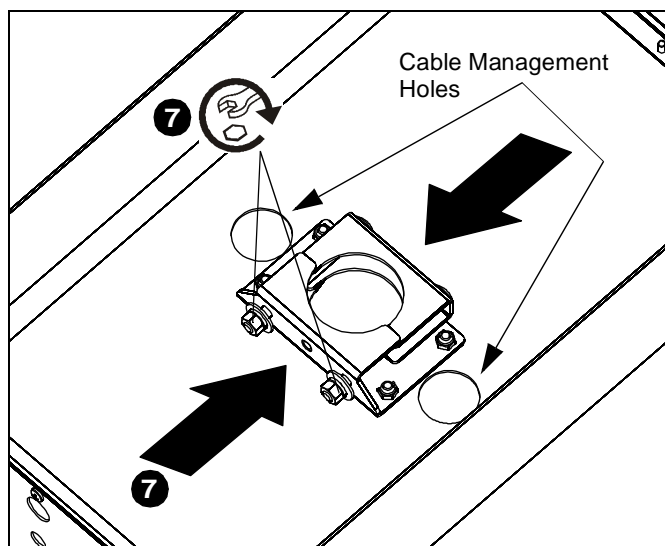

Figure 4
7. Tighten clamp bracket around column, and tighten carriage bolts. (See Figure 4)
9. Power cords and cables may be run through the cable management holes. (See Figure 4)